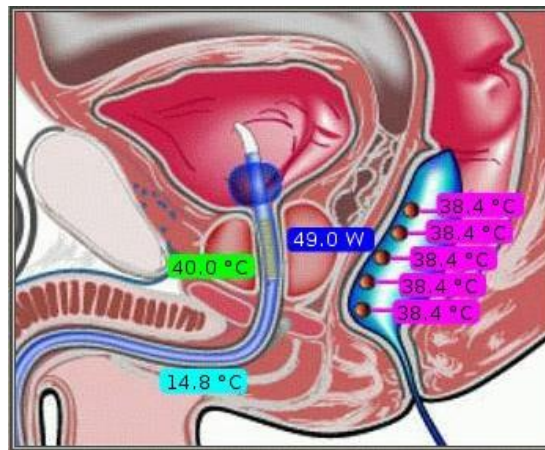

Figure 3-31. Treatment diagram
- View treatment data in a diagram format at the right side of the Urologix - BPH Treatment screen (Figure 3-31).